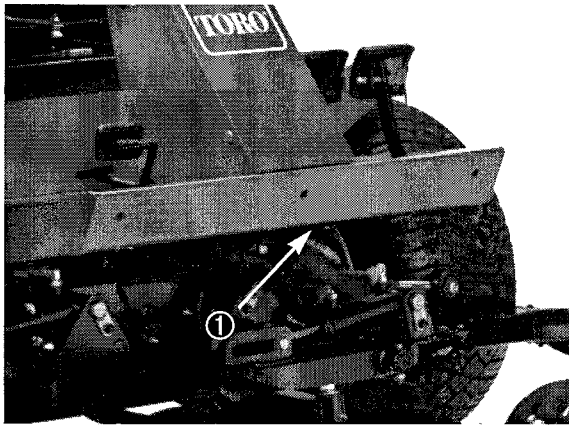

Figure 20
2. Attach a suitable chain, strap or cable to the center of the front frame member (Fig. 20).